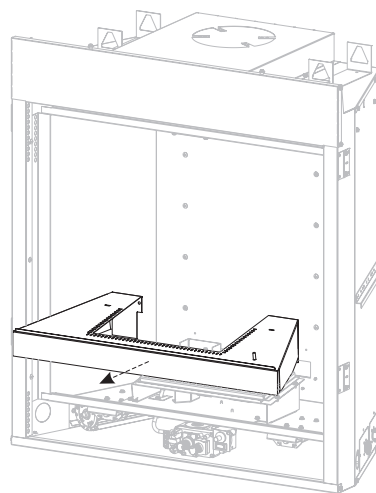

Figure 10
7. Remove burner cover by lifting off. **See Figure 10.**
20. Replace burner cover removed in step 7. **See Figure 10.**